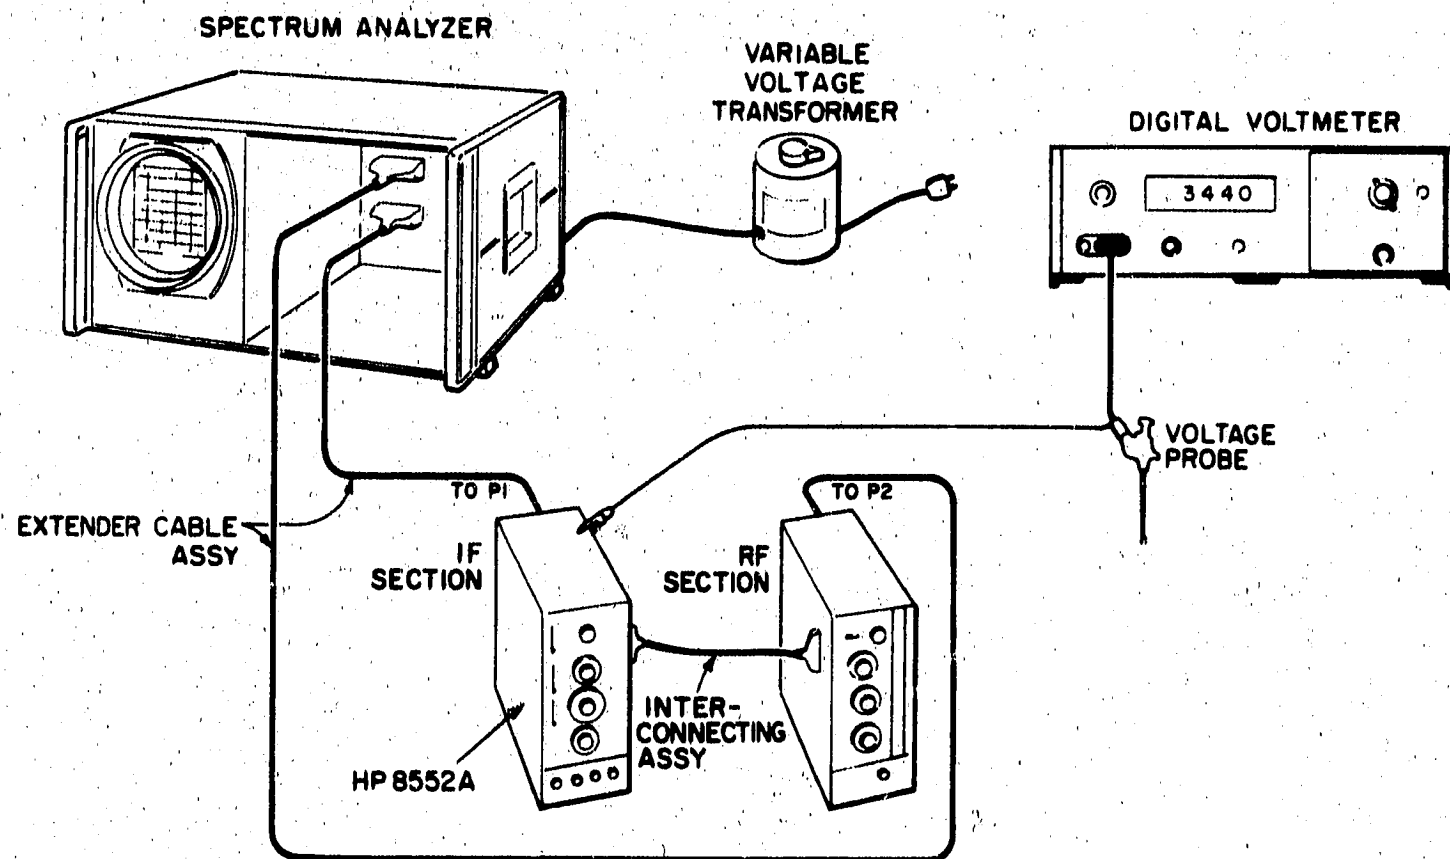

Figure 5-1. Power Supply Check and Adjustment Test Setup
1. Connect the test setup shown in Figure 5-1. Measure the DC display voltages with the HP 3440A/3443A Digital Voltmeter while the analyzer plug-ins are installed on extender cables.